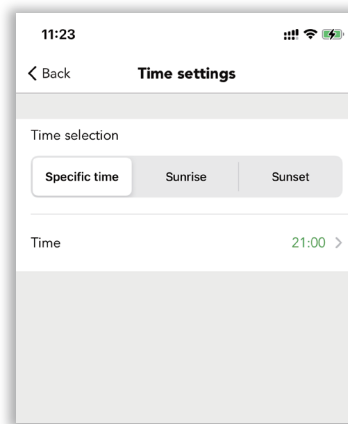

**Figure 6.36** Create time-based scene
Step 4. Long press on the “circadian” scene to access the time-based scene tab (see figure 6.36). Then for the first scene, please select the “circadian” scene, and define the time to sunrise (see figure 6.37). For the second scene, choose the “10% brightness” scene and define the time to 21:00 (see figure 6.38). Save the scene.